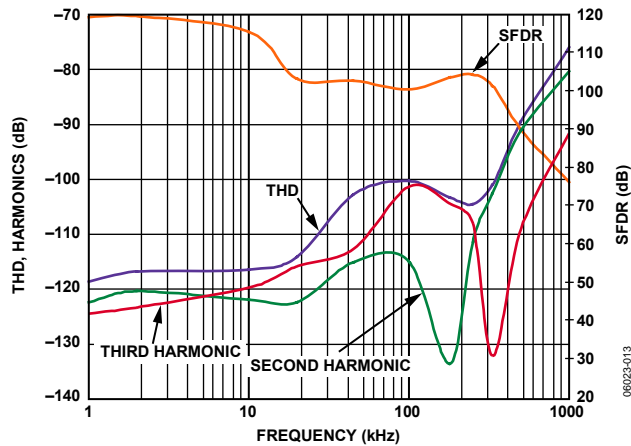

Figure 14. THD, Harmonics, and SFDR vs. Frequency
- The driver needs to have a THD performance suitable to that of the AD7622. Figure 14 gives the THD vs. frequency that the driver should exceed.